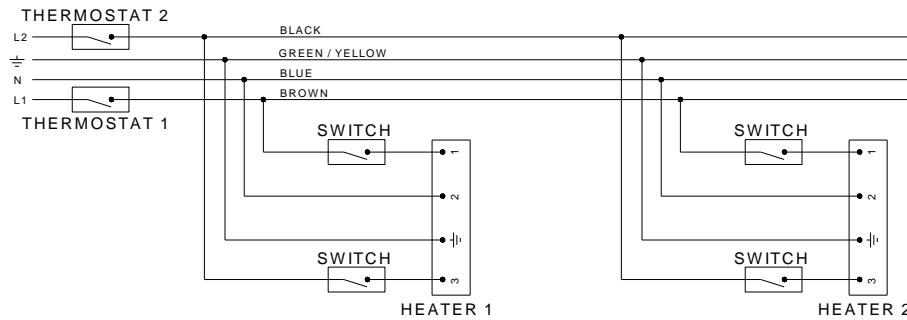

Fig. 4.
3.3.3 Ultra 7/3.5 - 42/21 (Hi/Lo): Three core and earth PVC covered flexible supply cable (0.5mm² - to National or Local standard specification) must be used, with connections made as shown in Fig. 4.
- 5.1.3 If the appliance has a thermostat fitted in the electrical supply circuit, ensure that it is set high enough to demand heat. Ultra HI/LO (e.g. Ultra 7/3.5): ensure that the second thermostat (T2 - see Fig. 4) is set high enough to call for heat also.
5.1.10 Ultra HI/LO (e.g. Ultra 7/3.5) only: with the burner ignited, turn down the temperature setting of the second thermostat (T2-see Fig. 4) and observe that the tile colour changes from bright cherry red to dull red. (Low burn condition - LO - heat input reduced to 50%). To increase the heat input to 100% (HI), turn up the temperature setting of the second thermostat (T2).